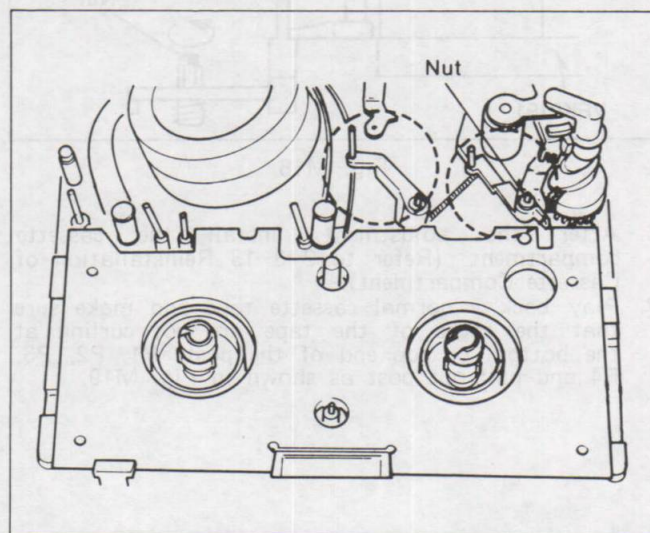

Fig. M16
3. Turn the Capstan Motor to counterclockwise (loading direction) until the mechanical condition becomes as shown in Fig. M16.